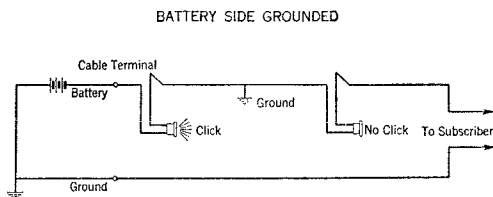

Fig. 4
- (c) Touch the end of the wire that leads away from the central office with the other clip. (See Figure 4.)